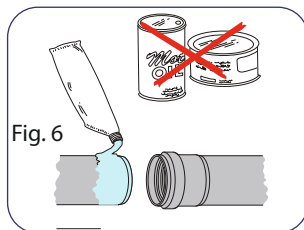

Fig. 6
d) silicone grease should be applied on the edge of the pipe, in its absence it's possible to use soapy water. Do not use mineral oils or lubrication (Fig. 6);